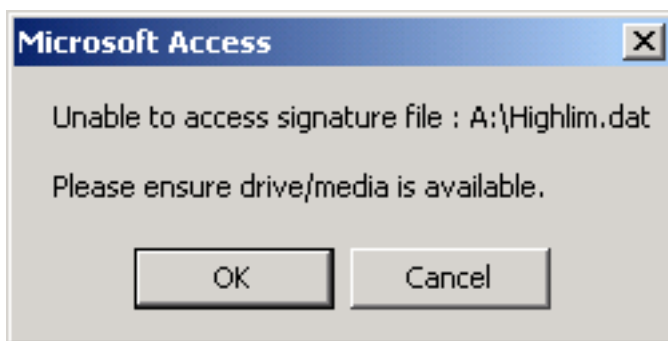

Figure 5-2
4. Follow the prompts to complete the print job. During this process, the system will prompt you to insert the removable disk containing the encrypted signature(s) (Figure 5-2).